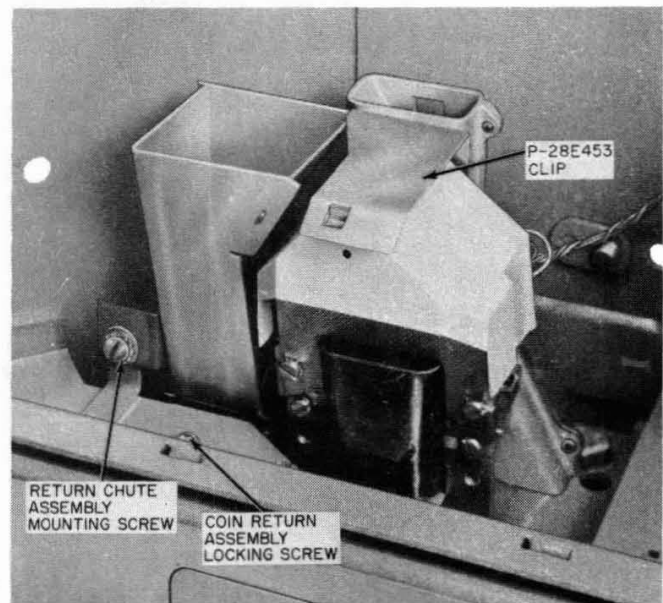

Fig. 7—Coin Relay and Return Chute Assembly
2.12 To remove return chute assembly (Fig. 7):
2.14 To remove coin relay (Fig. 7):
- (3) Install dust cover and P-28E453 clip (Fig. 7).
- (4) Install return chute assembly (2.12).
- (1) Remove return chute assembly (2.11).
- (2) Remove coin return assembly locking screw (Fig. 7).
- (3) Insert finger in coin return and tilt top forward.
- (4) Lift coin return. Pull coin return assembly out and up.